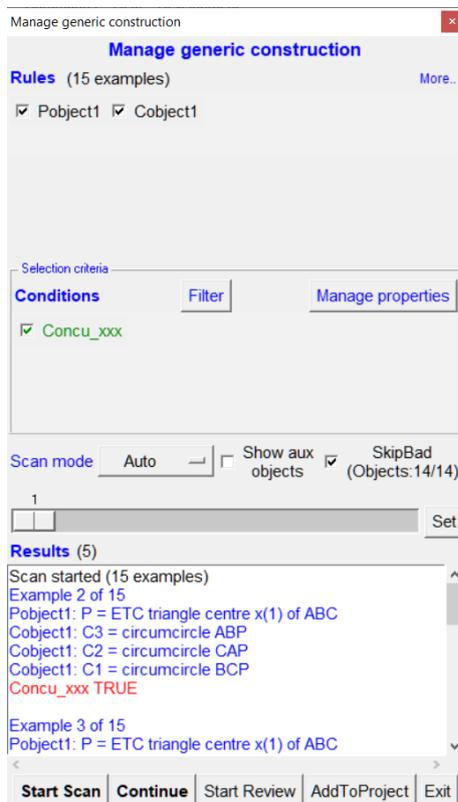

Figure 49
1. In the Examples-form checkmark the rules you want to consider (Figure 49, see previous section).